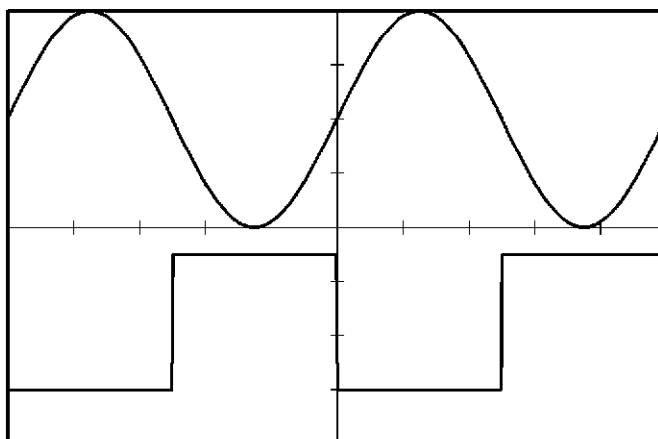

Figure 8-23 Reference Waveform for Sequence Marker, Negative
18. Verify that the marker that is high in the period in which the output signal is negative outputs as shown in Figure 8-23.